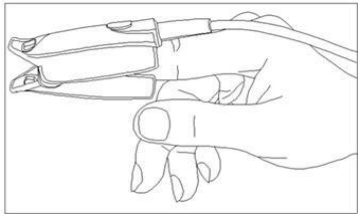

Figure 1 Finger Clip Sensor
2. For Adult Finger Clip SpO2 Sensor, insert one finger (index finger is preferred, but middle or ring finger with proper nail length is possible as well) into the sensor according to the mark on the sensor clip, as shown in Figure 1.